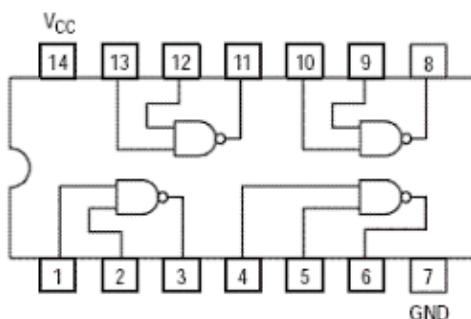

Fig 2.2: 74LS00 2-input NAND gate IC configuration
In order to implement the NAND gate operation using IC, the TTL 74LS00 2-input NAND gate IC can be used. This IC has 14 pin Dual Inline Package (DIP) configuration as shown in Fig 2.2. The power supply connections are made to pin 7 and 14. Pin 1 is identified by a small indented circle next to it or by a notch cut out between pin 1 and 14.
- Pin Assignments for the ICs have been shown in Fig 2.2